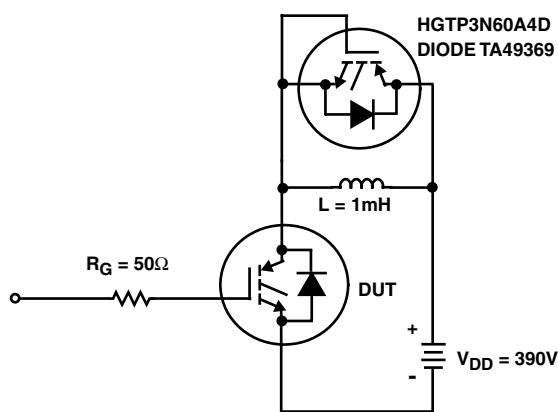

FIGURE 24. INDUCTIVE SWITCHING TEST CIRCUIT
2. Values for two Turn-On loss conditions are shown for the convenience of the circuit designer. E_{ON1} is the turn-on loss of the IGBT only. E_{ON2} is the turn-on loss when a typical diode is used in the test circuit and the diode is at the same T_J as the IGBT. The diode type is specified in Figure 24.